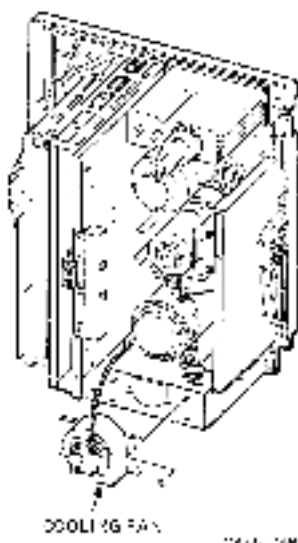

Figure 4-18 Cooling Fan Assembly
2. Remove the drive cover (Paragraph 4.3). Detach the cooling fan connector from receptacle J3 on the power supply (Figure 4-18).